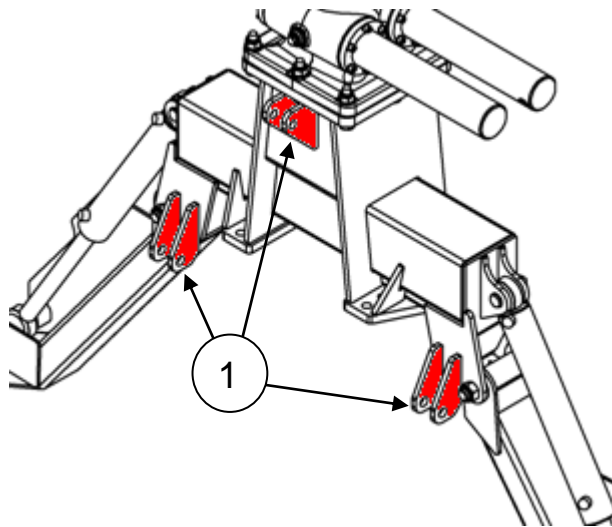

Figure 6.1 3-point linkage junctions on FD support leg (B6)
Before mounting crane to the 3-point linkage (pos.1, fig. 6.1) make sure that: